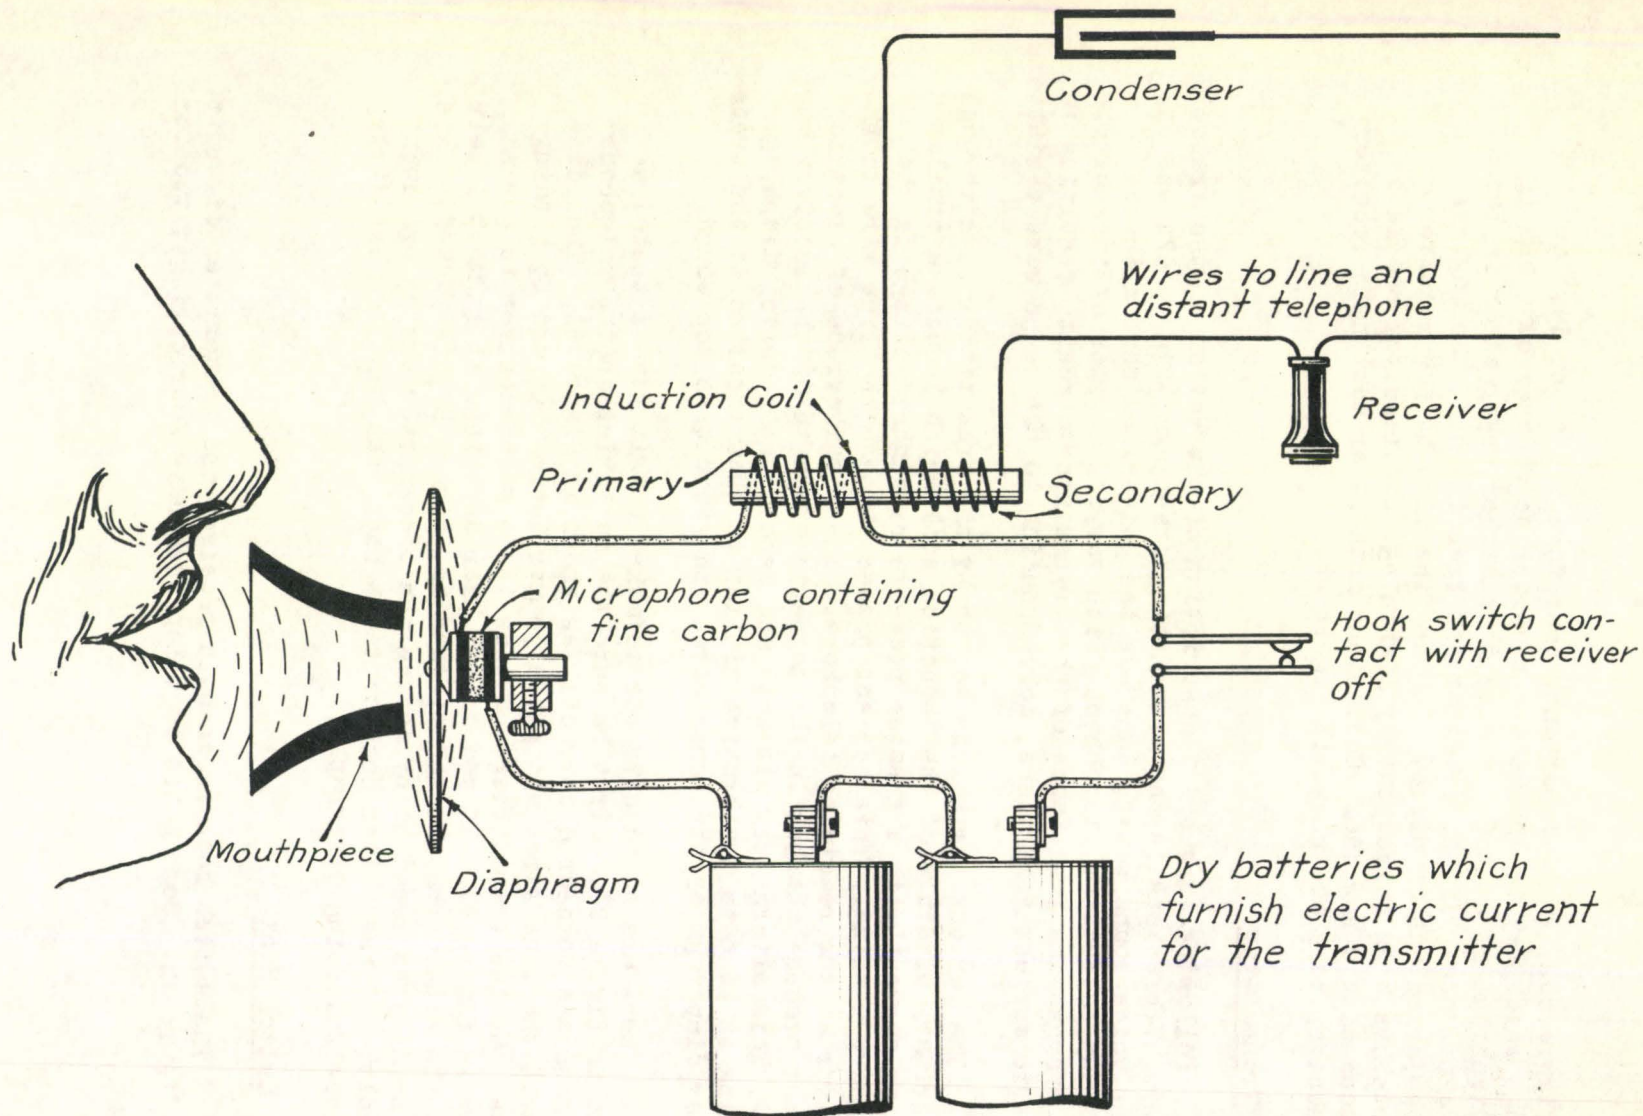

FIGURE 87
4. The transmitter circuit, figure 87, sometimes referred to as the primary or battery circuit, includes the batteries, hook switch, primary or heavy winding in the induction coil, and the transmitter. This circuit is connected to the line only through the induction coil.
Following is a brief description of the action of the transmitter. Vibrations in the transmitter diaphragm, figure 87, set up by the voice sound waves, compress the pulverized carbon in the small cup called the microphone, with varying degrees of intensity. This changes the resistance of the transmitter circuit, resulting in electric current variations, corresponding to the sound wave variations.
There are no adjustments to make, but it may be tested as shown in figure 93. First be sure the batteries in the telephone are good and connected correctly as shown in figure 61. Then disconnect the line wires and put a jumper between L₁ and L₂ binding posts, tap the transmitter and blow in it with receiver to ear as shown in figure 93. If you do not hear anything, it is most likely that the fine carbon in the microphone, figure 87, is packed. This can usually be remedied by moving the transmitter arm up and down rapidly. If the switch hook contacts have been bent, or are dirty, see the following paragraph.